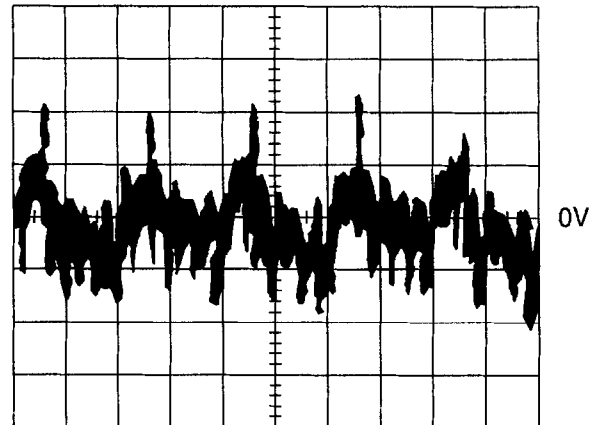

Fig. 1
Checking the ripple voltage (see Fig. 1)
- The ripple voltage (Fig. 1) must not exceed 50 mV.